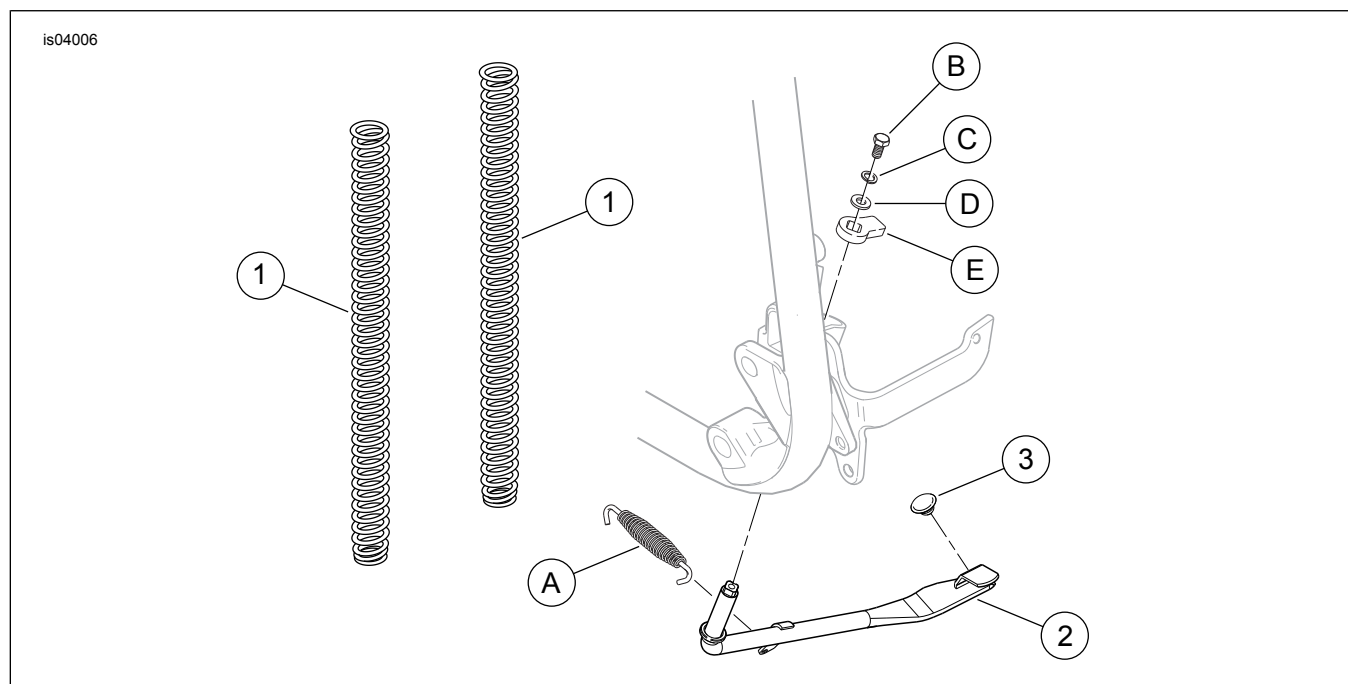

Figure 3. Service Parts: FL Softail Profile Low Front Suspension
See Figure 3 and Table 1.
2. See Figure 3. Unfasten the jiffy stand leg spring (A) from the vehicle. Remove the hex bolt (B), lock washer (C), flat washer (D) and leg stop (E) from the threaded end of the jiffy stand leg. Discard the jiffy stand leg, but retain all other components.